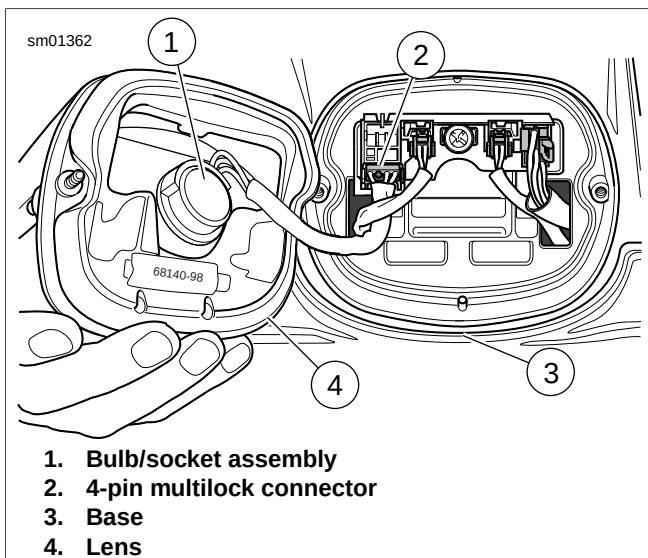

Figure 6-62. Tail Lamp (Typical, XL Models Shown)
2. See Figure 6-62. Remove two screws and lens (4) from base (3).
4. Turn socket assembly (1) one-quarter turn counterclockwise to release assembly from lens. Remove (pull) assembly from lens. Remove bulb from socket.